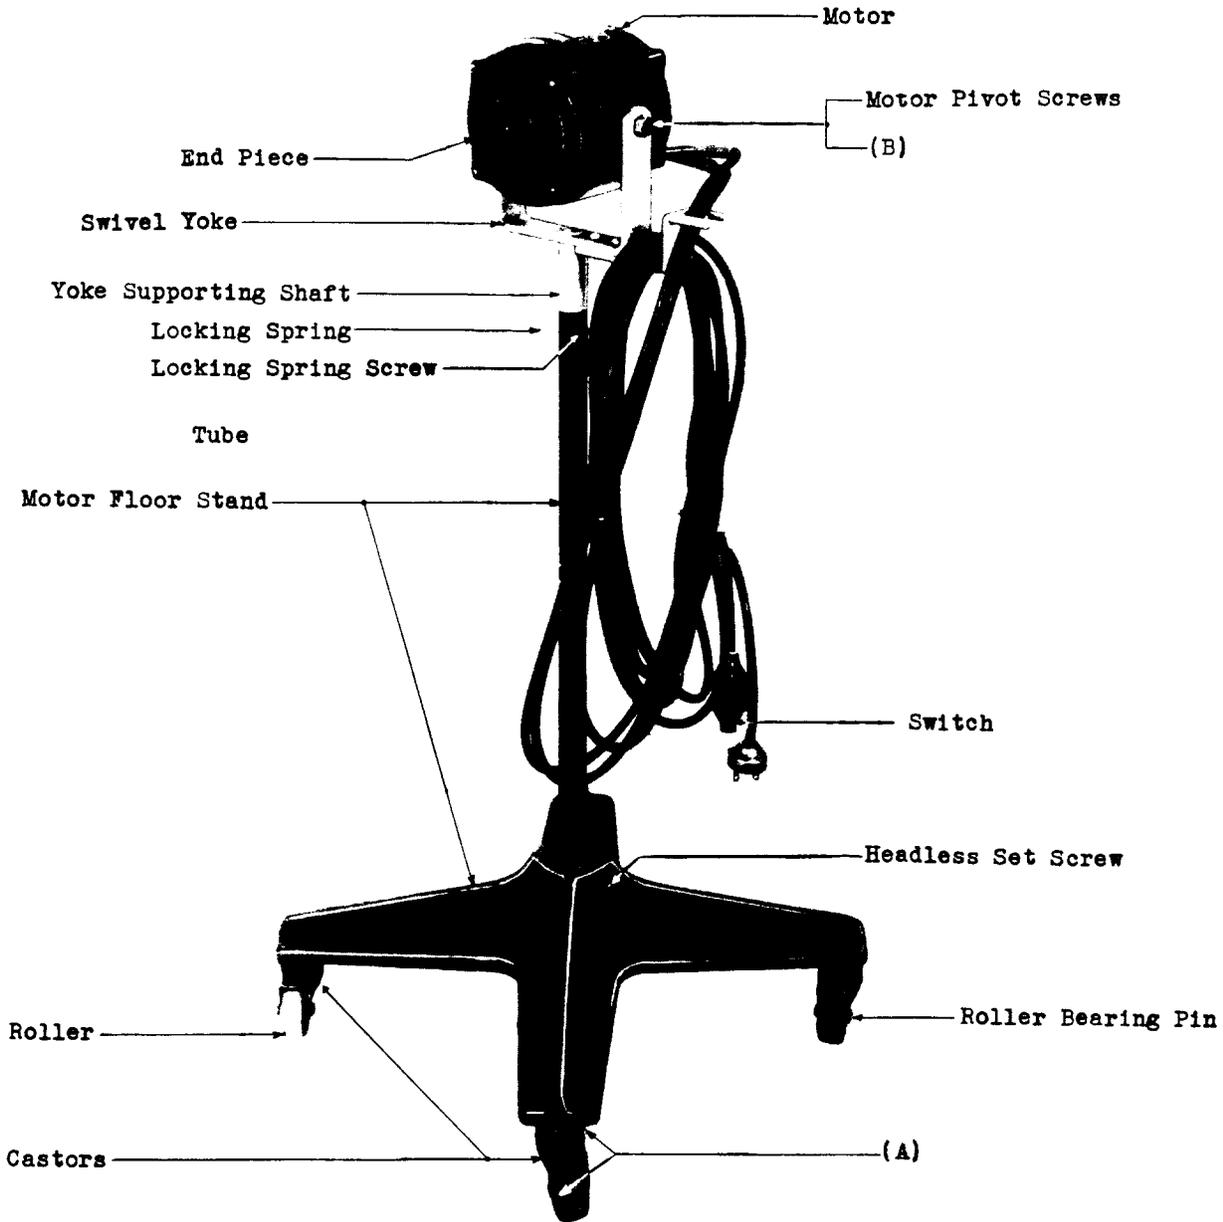

Fig. 1
2.02 Lubrication - Fig. 1 (A)
2.07 Motor Pivot Screws - Fig. 1 (B) - The motor pivot screws shall move freely in the yoke. Gauge by feel.